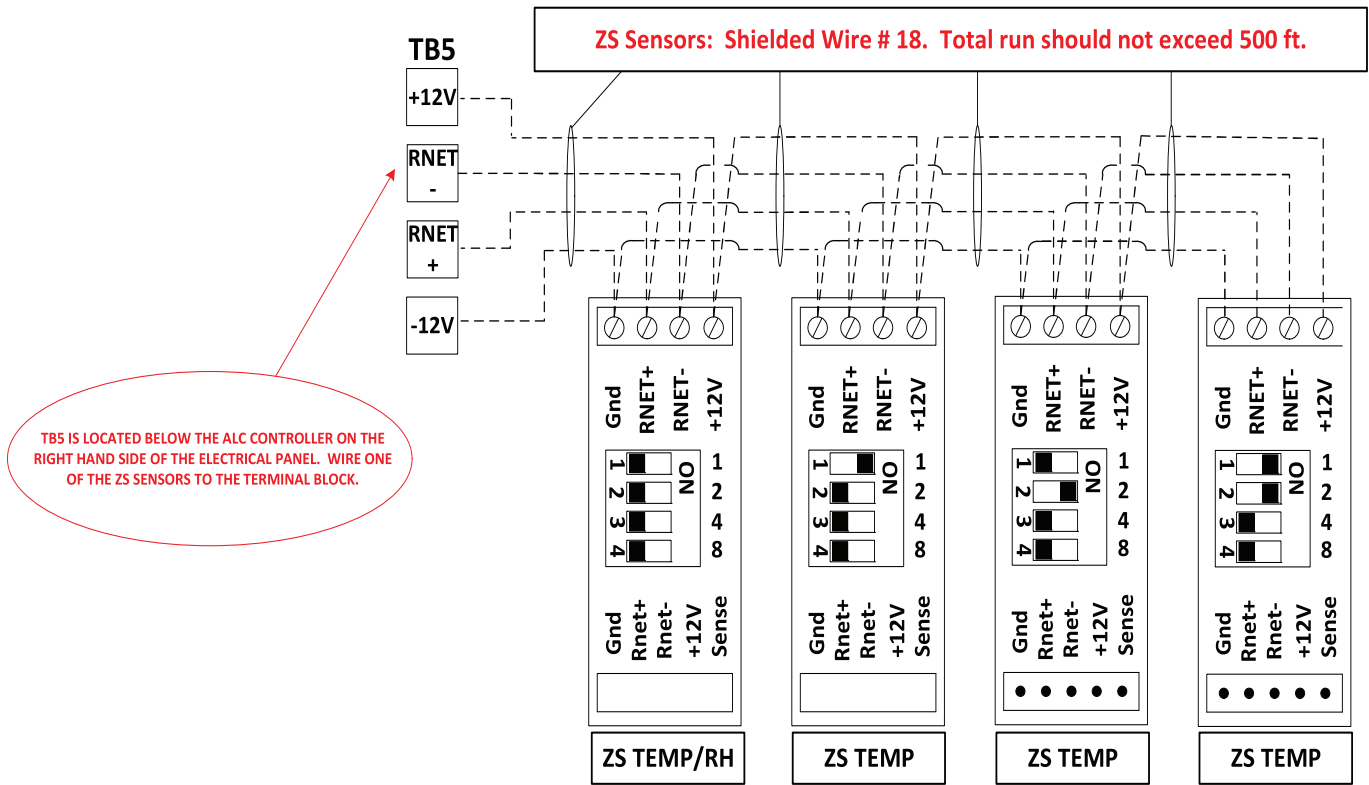

Fig. 69 — ZS Sensors —Wiring and Set Up
See Fig. 69.
- Standard programming can accept up to (5) ZS sensors.
- Room Sensors must be wired in a “daisy chain” configuration. See Fig. 69.